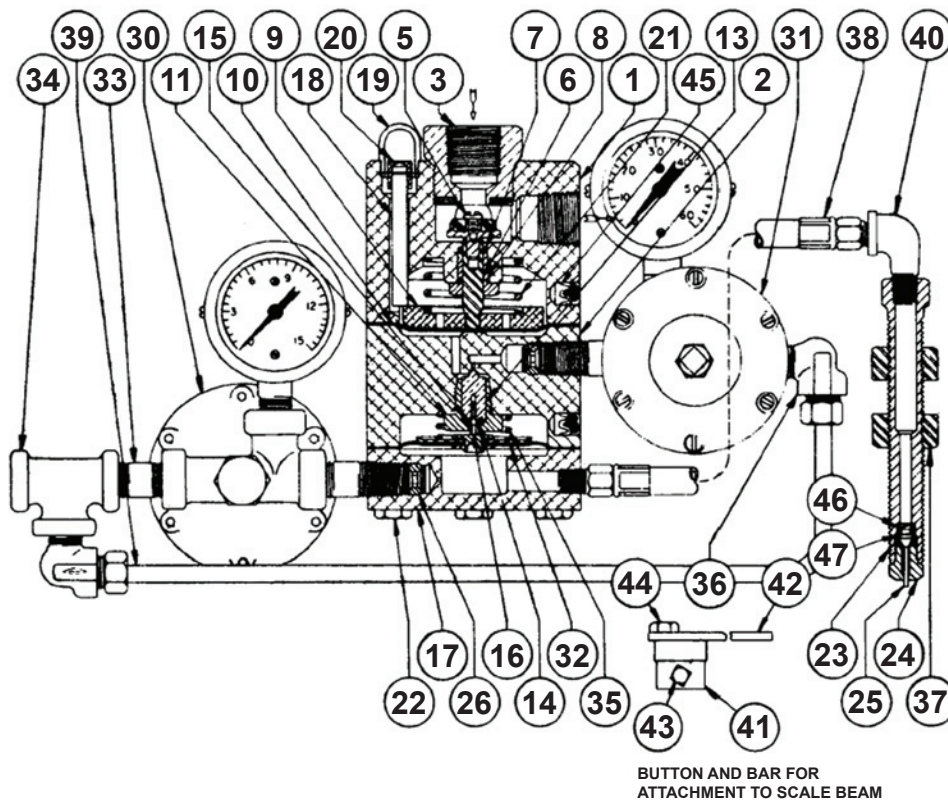

Figure 3. Type N201
- If sticking of the main (upper) valve should occur, place a few drops of oil below the disc holder, Key No.5 in Figure 3. This can be done with an eye dropper or oil can through one of the outlet ports. Refer to the disassembly instructions if this does not correct the situation.
To check disc holder assembly, O-ring, and diaphragms proceed as follows (numbers in parenthesis refer to Key Nos. in Figure 3):